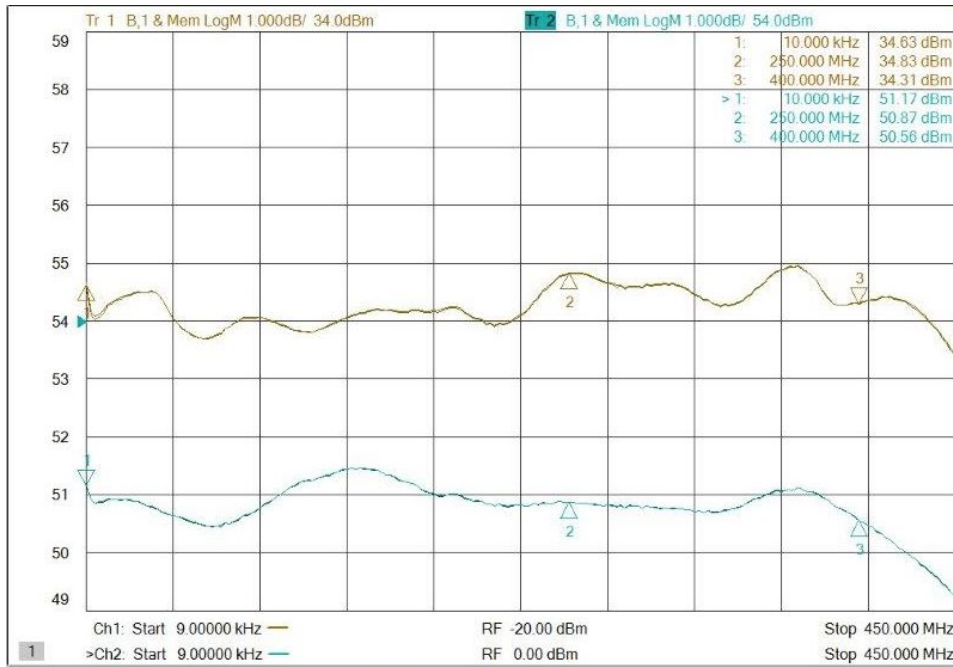

Figure 4-1. Typical Response at -20 dBm Input and 0 dBm Input
1. The Model 100A400A's typical gain response at 0 dBm input and -20 dBm input is shown in Figure 4-1. The actual gain may vary from that shown in Figure 4-1 but should be ≥ 50 dBm.